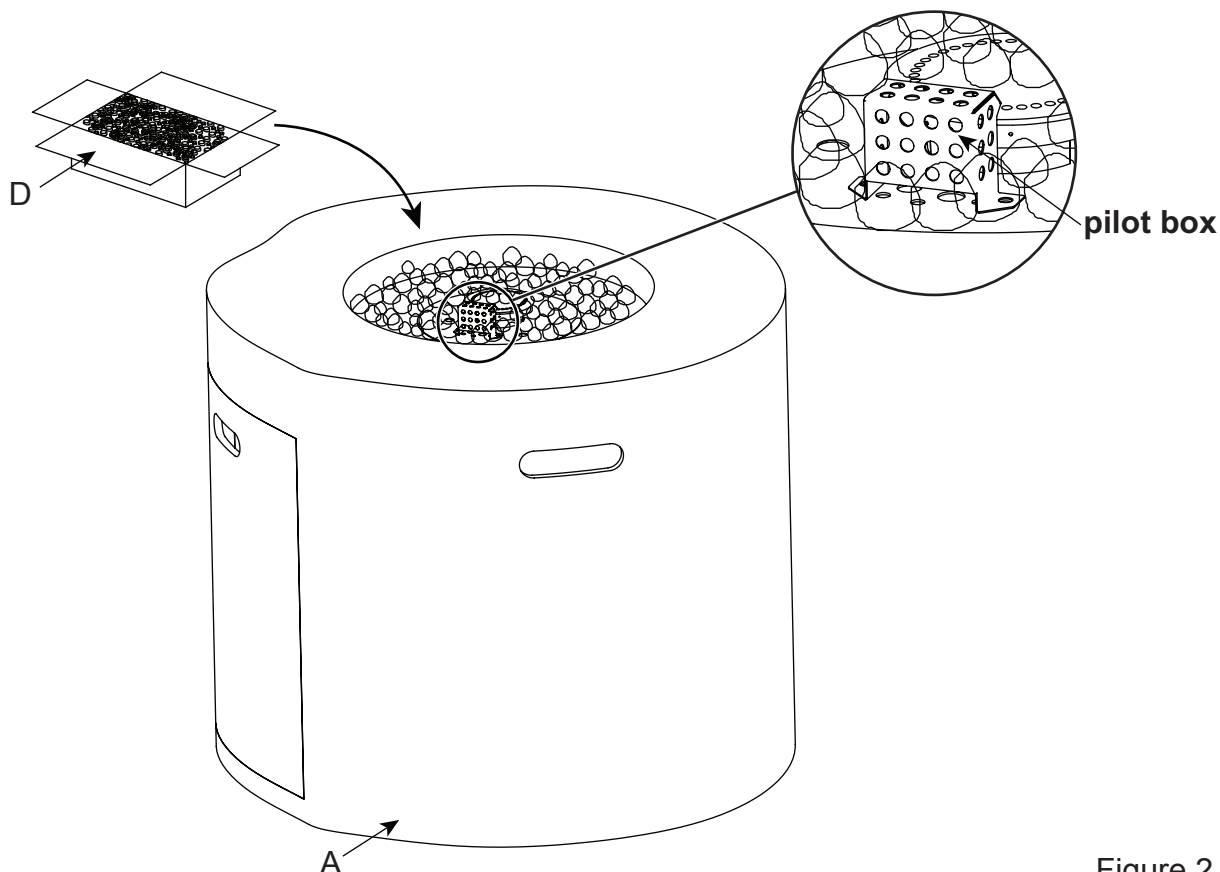

Figure 2
Open the box of glass rocks, put the glass rocks (D) into the fire bowl of the fire table (A) (see Figure 2). A gas fire pit requires 8.8 lbs glass rocks.